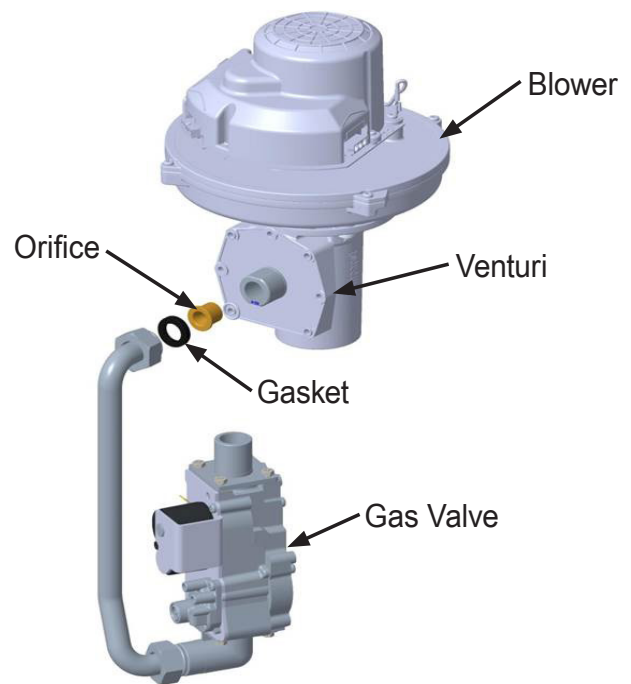

Figure 6. Location of Orifice
2. Open the 4 toggle latch clamps fixed to the top (2) and bottom (2) front door of the boiler and tip the door top forward. Remove the front door from the product by lifting the front door up and away from the boiler cabinet.
4. Locate the Gas Inlet Pipe from the gas valve to the venturi as shown in Figure 6, and loosen the fittings at both ends of the Gas Inlet Pipe.